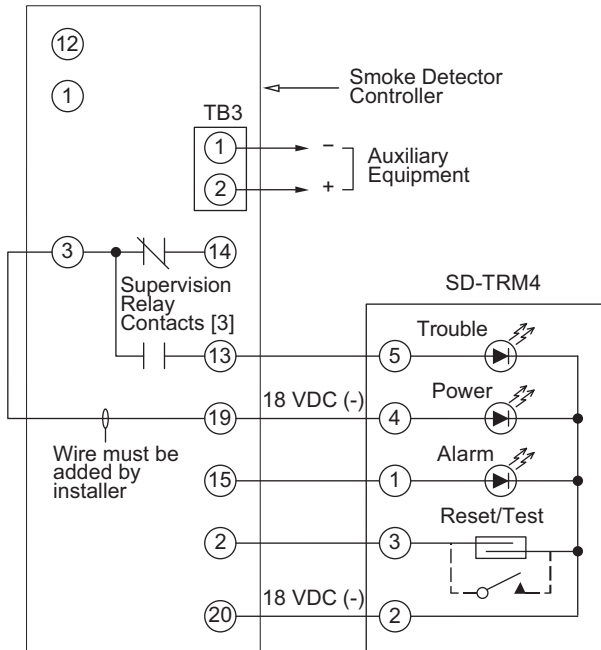

Fig. 61 — Remote Test/Reset Station Connections
The test/reset station dirty sensor test checks the test/reset station’s ability to initiate a sensor dirty test and indicate the results. It must be wired to the controller as shown in Fig. 61 and configured to operate the controller’s supervision relay. For more information, see “Dirty Sensor Test” on page 40.
1. Verify that the remote test/station is wired as shown in Fig. 61. Repair or replace loose or missing wiring.